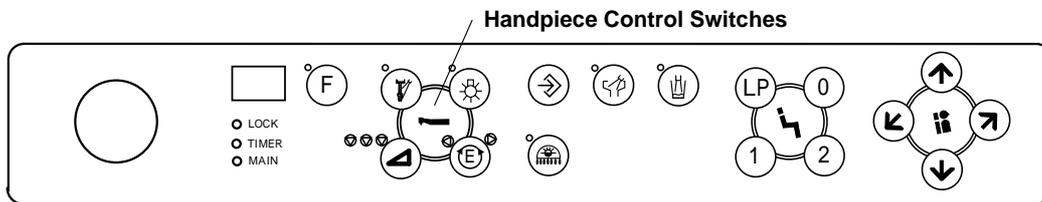

Fig.3-4 Main Control Panel
(5) Handpiece Control Switches (**Fig.3-4**)